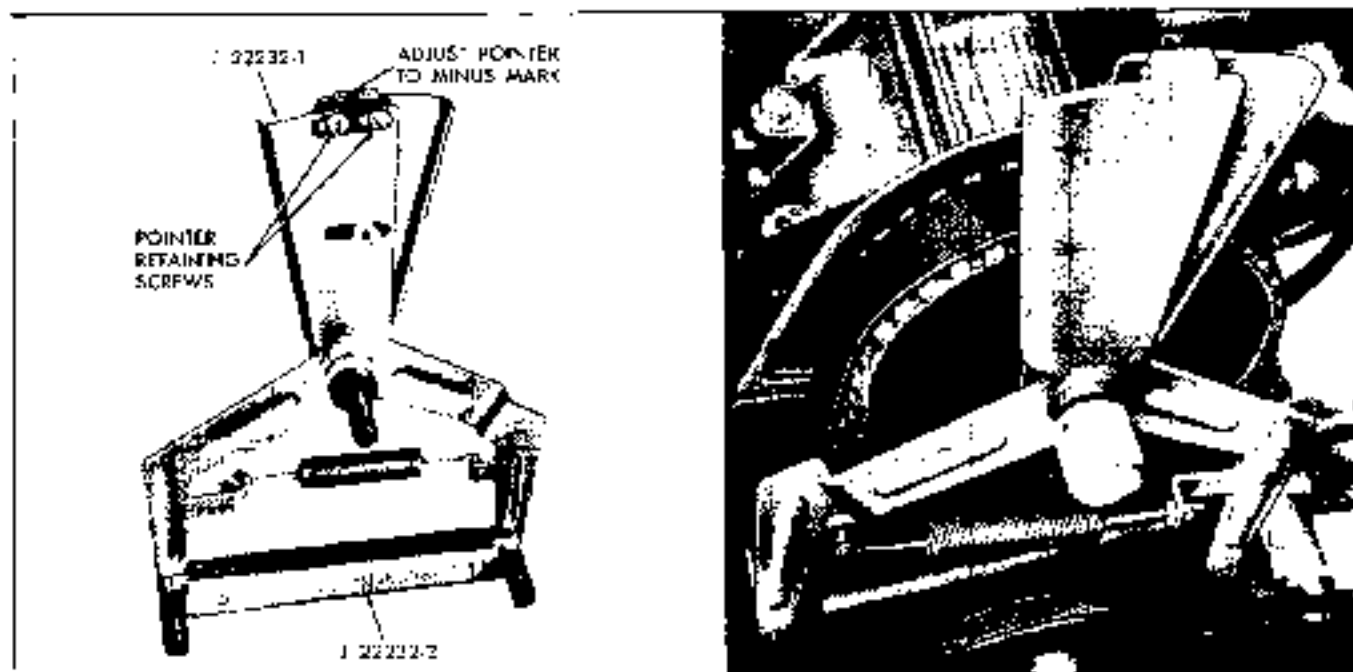

Fig. 6-12 Adjusting Timing Belt Tension
2. Using J 22232-2 calibration bar as shown in Fig. 6-12) set pointer of tension fixture J 22232-1 to line up with mark on timing side.